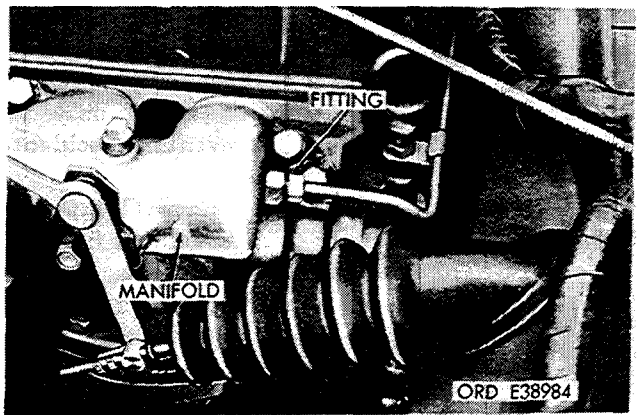
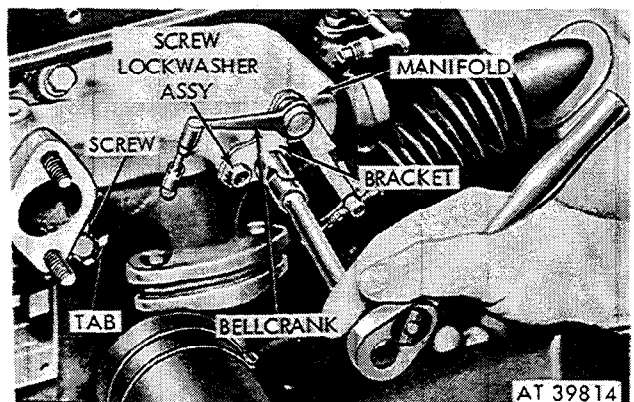
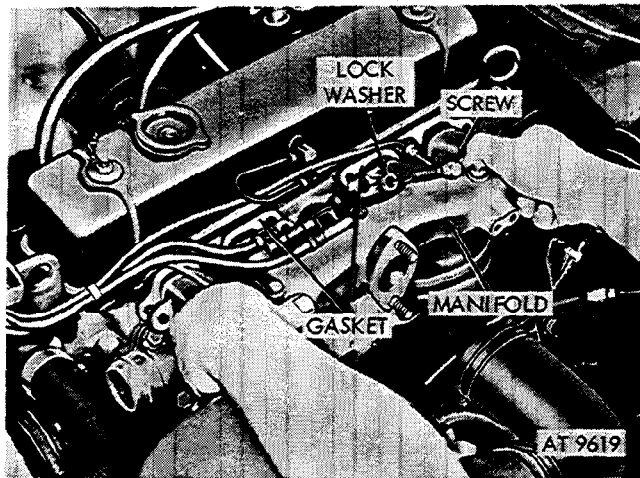

Figure 2-71. Unscrew vent line fitting from intake manifold
Figure 2-73. Remove bellcrank.
Figure 2-74. Remove intake manifold.
*a. Removal.* Refer to fig. 2-71 through 2-74 for removing intake manifold.
(1) Remove air cleaner base and carburetor.
(2) Unscrew vent line fitting from intake manifold (see fig. 2-71).
(2) Unscrew crankcase ventilating valve and fitting from intake manifold.
(5) Remove two bellcrank screws and lock-washer assemblies securing accelerator bellcrank bracket to intake manifold. Remove bellcrank (see fig. 2-73).
(6) Open tabs on dual tab washer and remove two screws and tab washer securing intake manifold to cylinder head.
(7) Remove six screws and four lockwashers securing intake manifold to cylinder head. Remove intake manifold and discard the two gaskets (see fig. 2-74).
*b. Installation.* Refer to figs. 2-74 to fig. 2-71 and reverse removal instructions to install intake manifold.